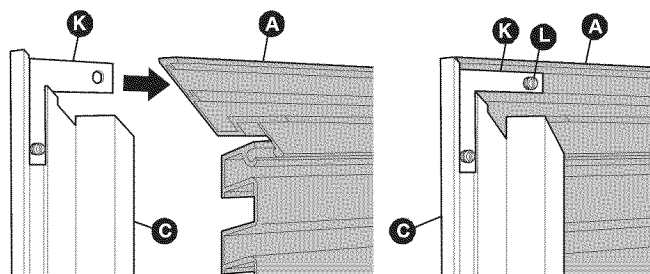

Figure 5
- Join each side trim (B and C) to the top trim (A). Make sure the ends of the Grill Assembly are captured in the channel of each side trim, then tape in place. Gently secure brackets (K) to top trim (A) by tightening set screws (L), only until snug to avoid dimpling the trim face. **DO NOT OVERTIGHTEN.** See Figure 5.